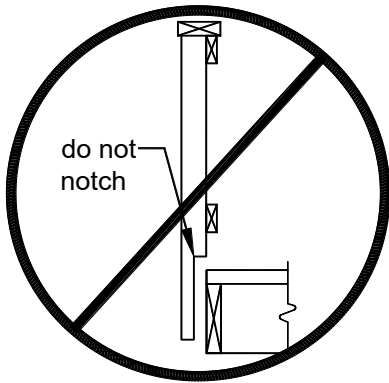

FIGURE 30: POST NOTCHES PROHIBITED
- Notching guard posts, as shown in FIGURE 30, is prohibited.